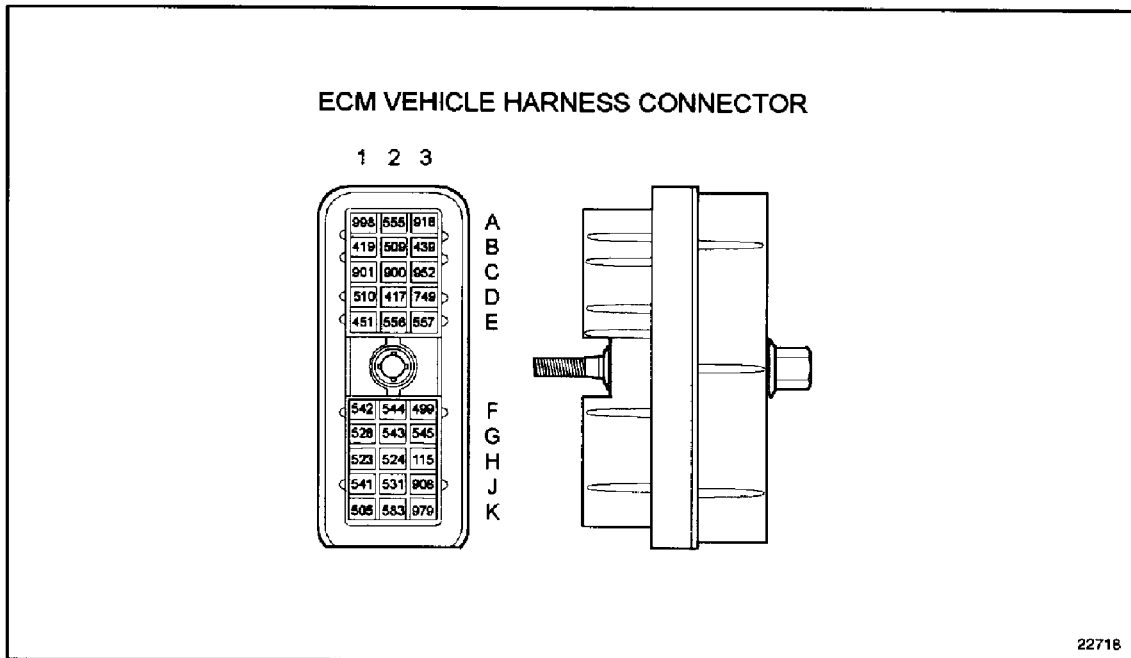

Figure 32-1 ECM Vehicle Harness Connector
5. Measure voltage between B2 (#509) and a good ground. See Figure 32-1.